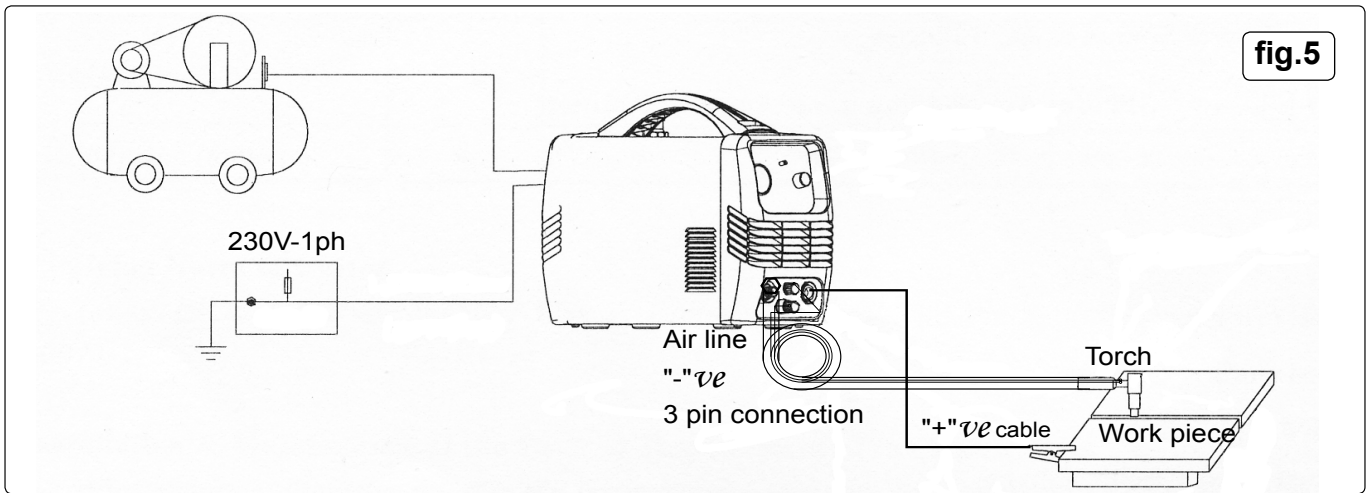

fig.5
- 6.1.1. Check that the earth cable is correctly clamped to the workpiece or work bench (fig.5).